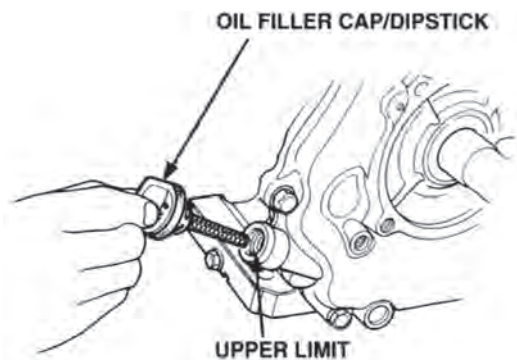

FIGURE-9
6.2.8 When oil reaches the upper limit, install the oil filler dipstick/cap (Figure-9).